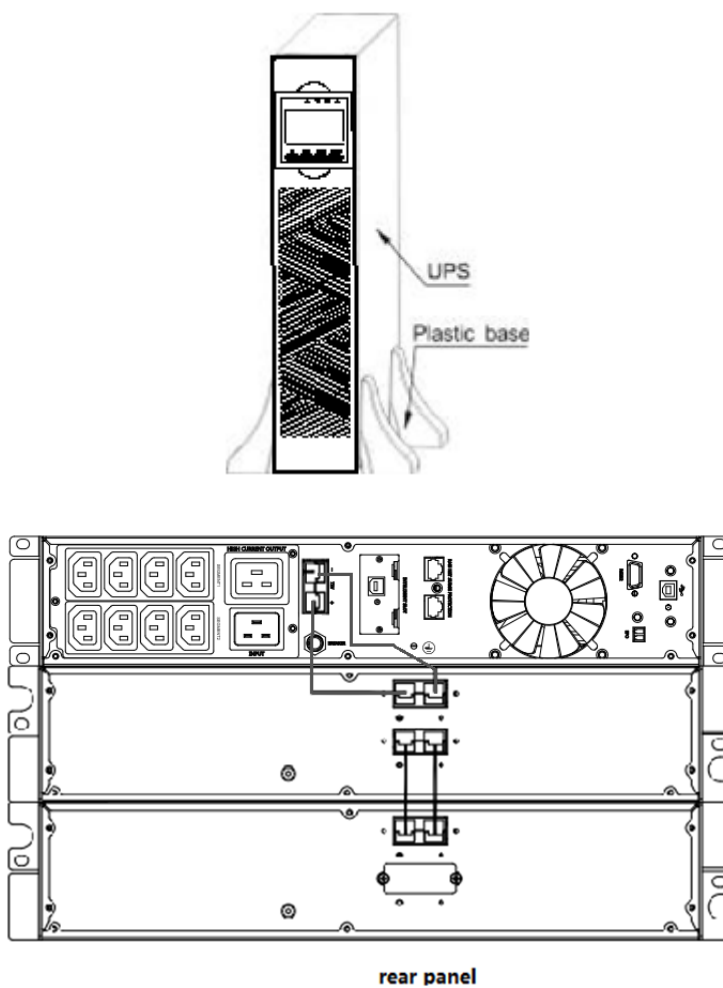

Figure14 The installation for UPS and battery boxes
- The installation between UPS and EBPS can be referred to Figure14